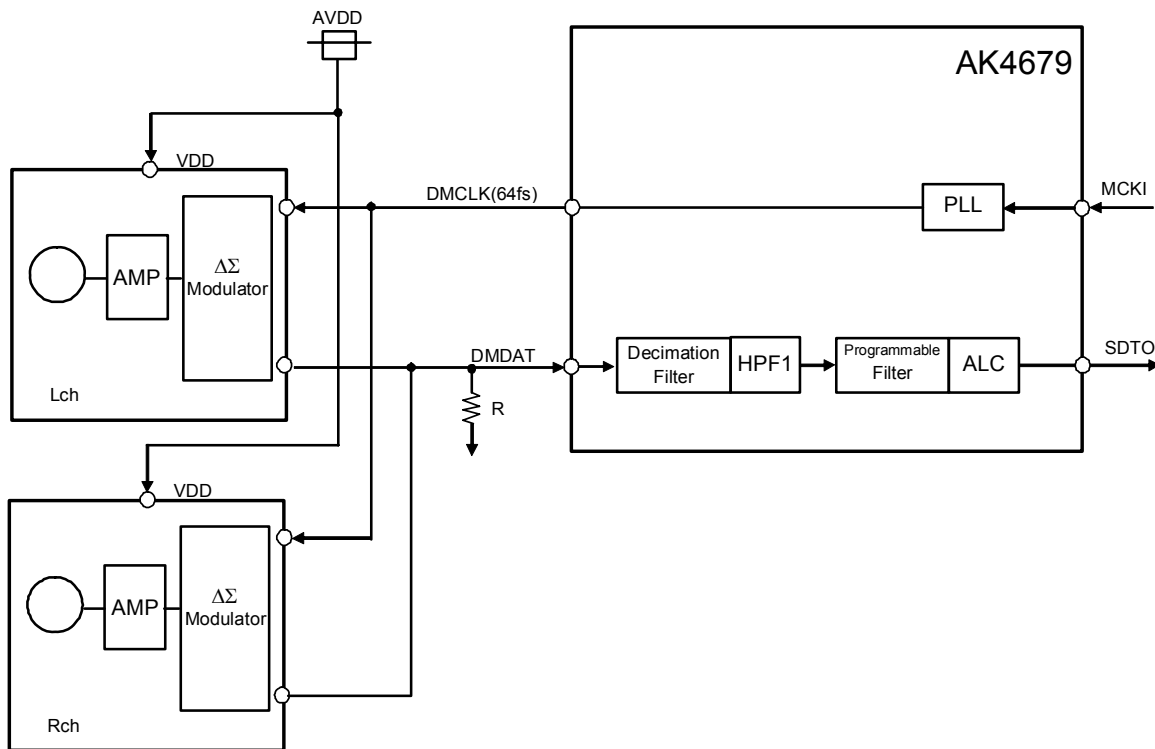
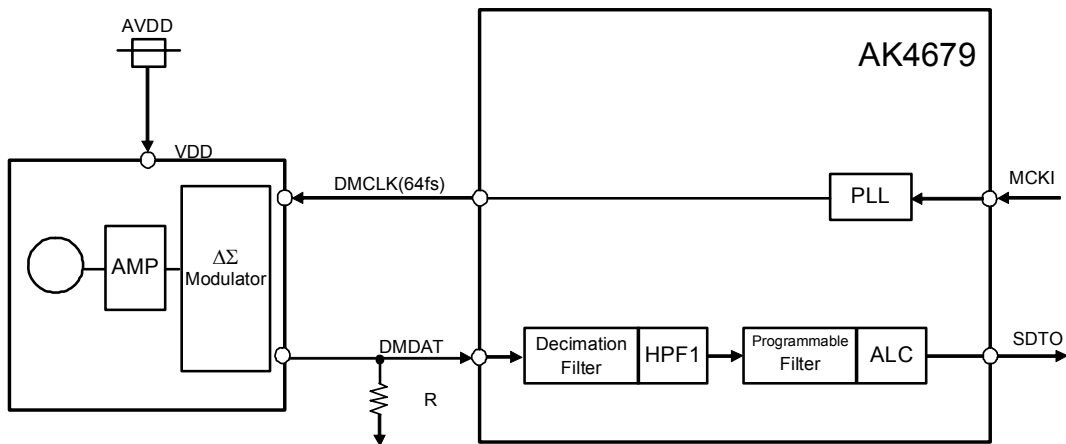

Figure 57. Connection Example of Stereo Digital MIC
Figure 58. Connection Example of Mono Digital MIC
The AK4679 can be connected to digital microphone by setting DMIC bit = “1”. When DMIC bit is set to “1”, the LIN1 and RIN1 pins become DMDAT (digital microphone data input) and DMCLK (digital microphone clock supply) pins respectively. The same power supply as AVDD must be provided to the digital microphone. The Figure 57 and Figure 58 show mono/stereo connection examples. The DMCLK signal is output from the AK4679, and the digital microphone outputs 1bit data, which generated by $\Delta\Sigma$ Modulator, from DMDAT. PMDML/R bits control power up/down of the digital block (Decimation Filter and HPF1). PMADL/PMADR bits settings do not affect the digital microphone power management. The DCLKE bit controls ON/OFF of the output clock from the DMCLK pin. When the AK4679 is powered down (PDNA pin= “L”), the DMCLK and DMDAT pins are pulled-down by internal 2.7k Ω (typ.) resistor. However, when the AK4679 is powered-up (PDNA pin= “H”), path of the internal pulled-down resistor is OFF. Therefore, external pull-down resistor(R) should be connected to the DMDAT pin to avoid floating state.